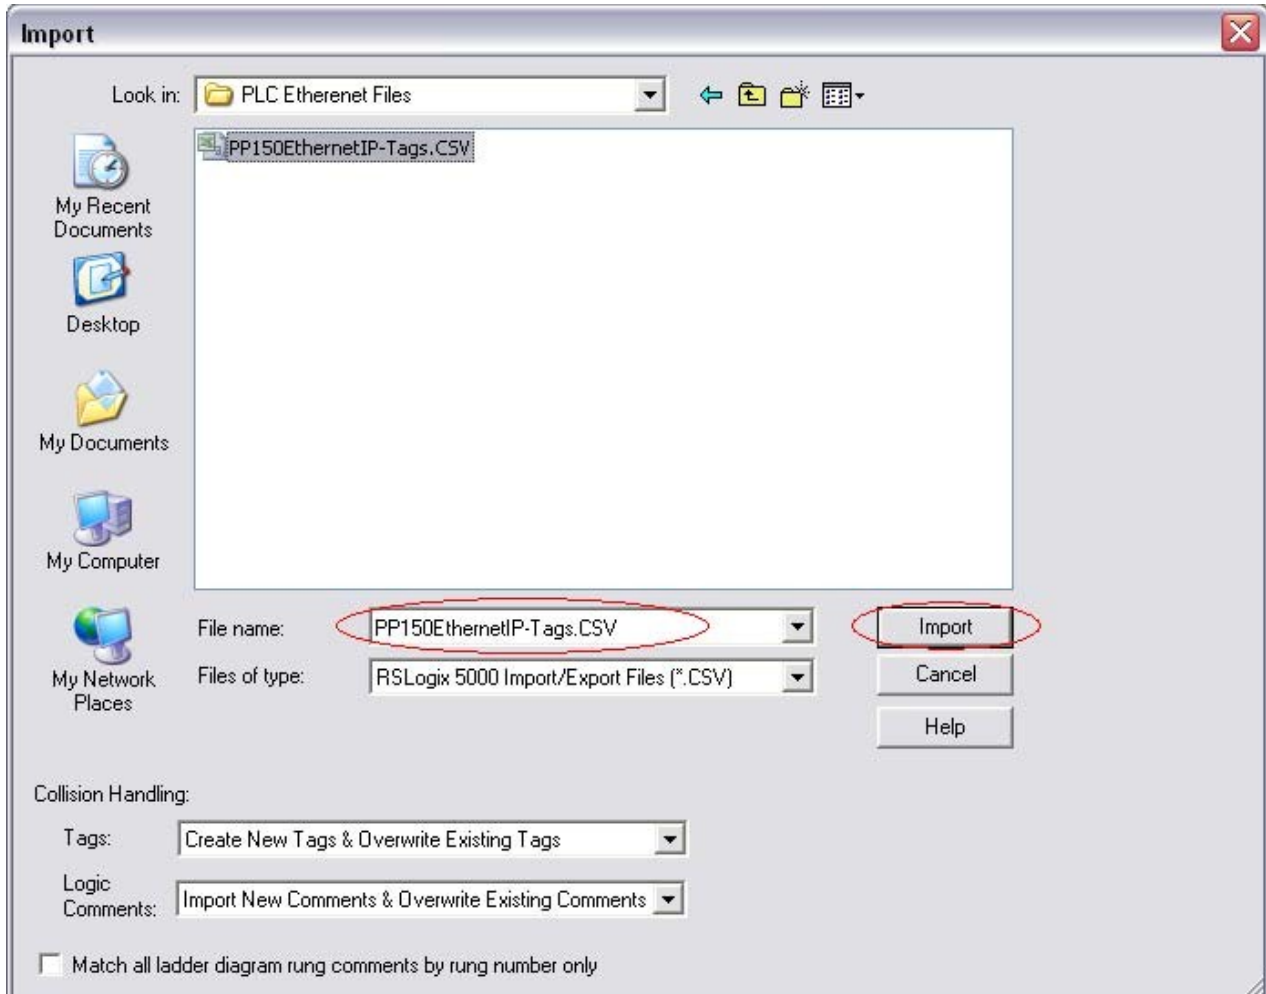

FIGURE 10.17
- S. SELECT THE PP150ETHERNETIP-TAGS.CSV FILE FROM THE CD SUPPLIED WITH THE CONTROLLER. (SEE EXAMPLE BELOW...FIGURE 10.17)